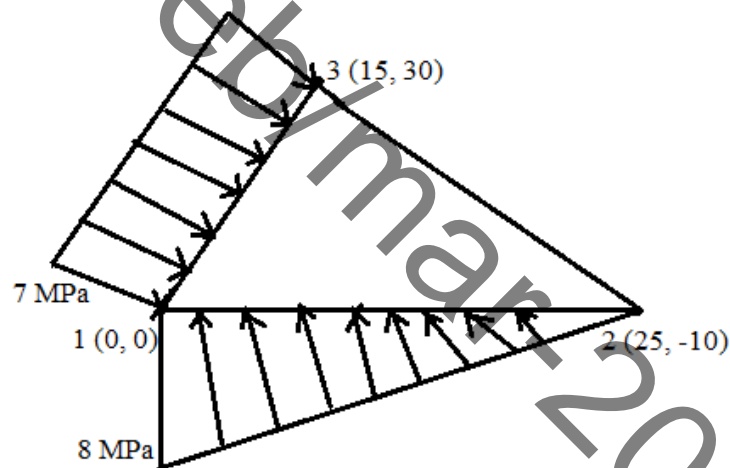

Figure 4
5. Calculate the stiffness matrix and load vector for the constant strain triangle (CST) subjected to the following loads as shown in figure 4. Take $t=5 \text{ mm}$. All dimensions are in mm. [15]